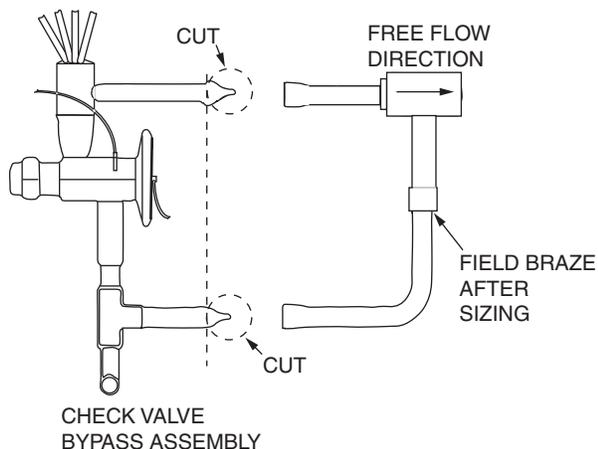

Fig. 74 — Heat Pump Bypass Kit Installation
1. Cut off the ends of the stubout tubes near the location of the dotted lines shown in Fig. 74.